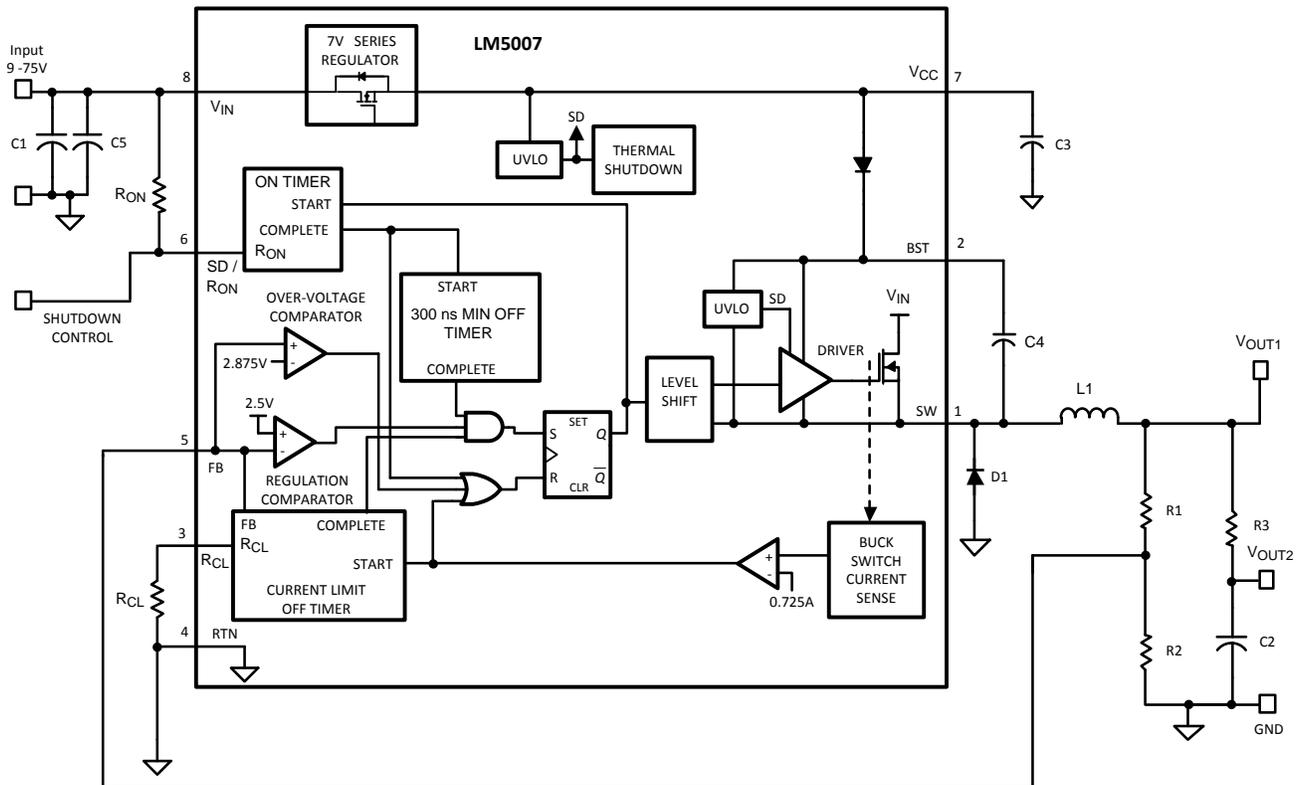

Figure 1. Block Diagram and Basic Application Circuit
A guide for determining the component values will be illustrated with a design example. Refer to Figure 1. The following steps will configure the LM5007 for:
R1 and R2: From Figure 1, $V_{OUT1} = V_{FB} \times (R1 + R2)/R2$, and since $V_{FB} = 2.5V$, the ratio of R1 to R2 calculates as 3:1. Standard values of 3.01k Ω (R1) and 1.00k Ω (R2) are chosen. Other values could be used as long as the 3:1 ratio is maintained. The selected values, however, provide a small amount of output loading (2.5mA) in the event the main load is disconnected. This allows the circuit to maintain regulation until the main load is reconnected.
a) ESR and R3: A low ESR for C2 is generally desirable so as to minimize power losses and heating within the capacitor. However, a hysteretic regulator requires a minimum amount of ripple voltage at the feedback input for proper loop operation. The minimum recommended ripple required at pin 5 of the LM5007 is 25mV p-p, requiring a minimum ripple at V_{OUT1} of 100mV (due to R1 and R2). Since the minimum ripple current (at minimum V_{IN}) is 56mA p-p, the minimum ESR required at V_{OUT1} is 100mV/56mA = 1.78Ω. Since quality capacitors for SMPS applications have an ESR considerably less than this, R3 is inserted as shown in Figure 1. R3's value, along with C2's ESR, must result in at least 25mV p-p ripple at pin 5. Typically, R3 will be 1.0 - 2.0Ω.